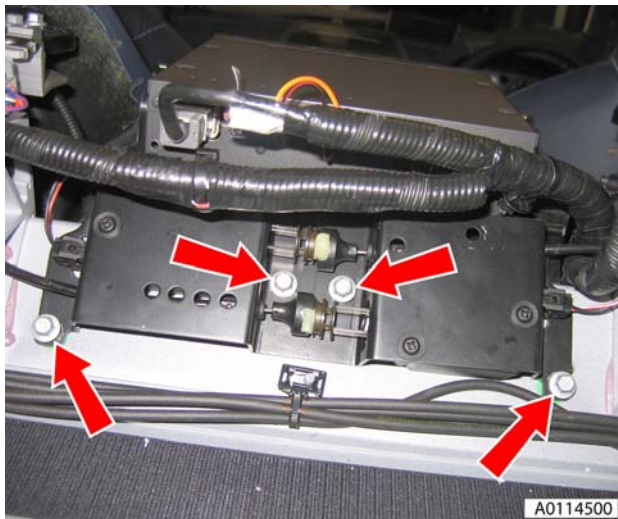

Figure 1
3. Remove 4 bolts securing latch motor bracket to body (see Figure 1).